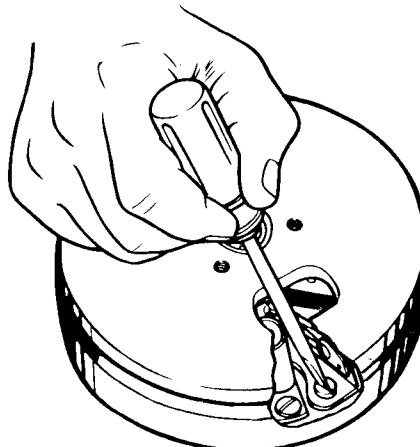

Figure 11
After cleaning, reset point gap to .020 inch maximum opening as follows: When hole in flywheel is directly over the breaker, maximum opening of the breaker is obtained. Check with .020 inch feeler gage. If opening is under or over .020 inch loosen breaker base screw (item 5, Figure 10) slightly. Turn adjusting screw (item 3, Figure 10) to right or left until required setting is obtained. Tighten breaker plate screw and re-check with gage. See figure 11.